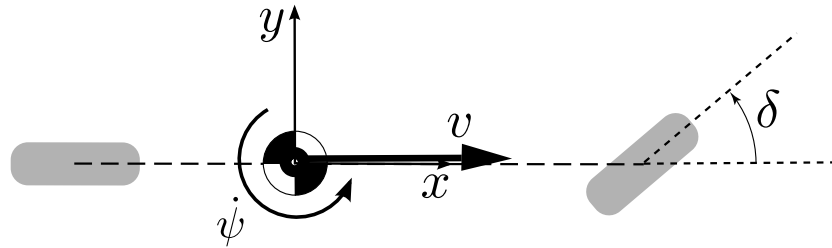

Figure 5: Bicycle model defining steering angle δ (drawn in positive direction after "ISO 8855" coordinate system \Rightarrow z up) and speed v .
- DE7.3.15 [DV ONLY] Beside RES messages (see DE7.4.8), the messages defined in Table 8 must be provided to the DL with a cycle time of 100 ms each. Steering angle δ and vehicle coordinate system is defined in figure 5.